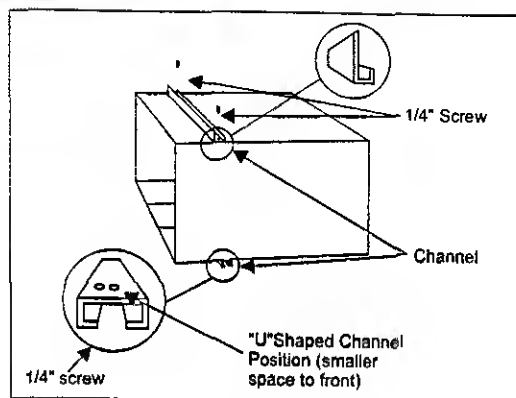

Fig 7
A. "L" Shaped Top Channel: Install the "L" shaped top channel to the cabinet as shown in (Fig 7) using (4) 1/4" screws
B. "U" Shaped Bottom Channel: Install the "U" shaped bottom channel to the cabinet as shown in (Fig 7) using (4) 1/4" screws